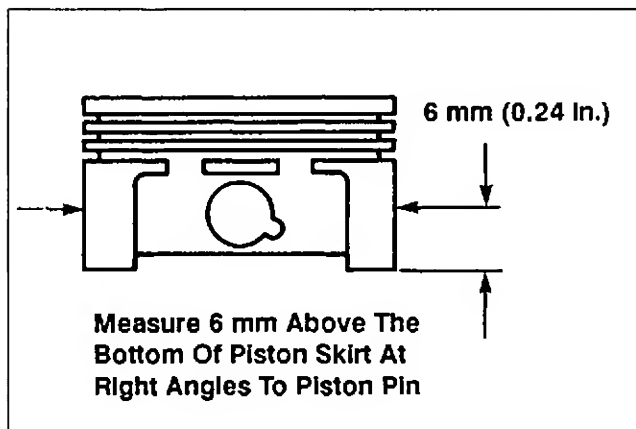

Figure 10-3. Measuring Piston Diameter.
1. Use a micrometer and measure the diameter of the piston **6 mm (0.24 in.)** above the bottom of the piston skirt and perpendicular to the piston pin (see Figure 10-3.)